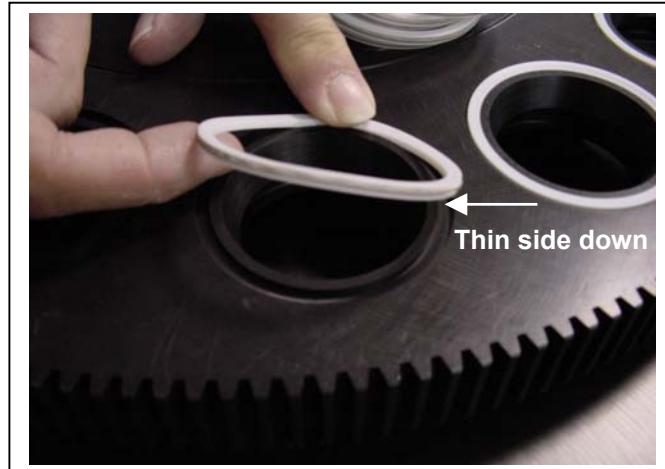

Figure C-6: Installing Variseal[®] Thin Side Down
1. If not already done, the gear plate assembly should be removed from the top fixed plate (see Figure C-6).
3. Remove the four (4) retaining bolts (with plastic washers) that secure the bottom fixed plate to the gear ring and remove the bottom fixed plate.